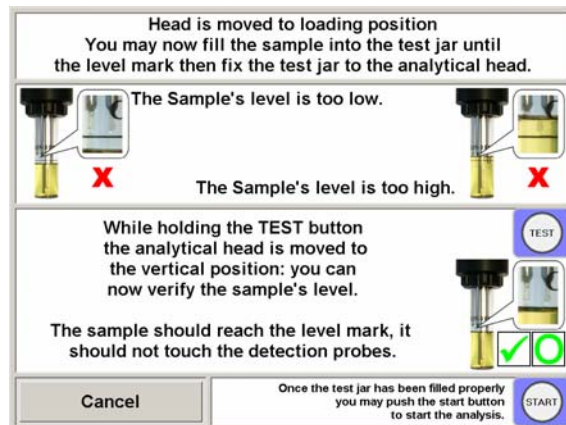

Figure 11: Start Analysis Panel
- Once the analysis has been setup as described in previous section, press the **Start Analysis** button, the panel shown in Figure 11 will pop up and the head will be moved to the loading position; the user can now easily remove the test jar, fill it as required then refix the test jar in its position.
- As described in Figure 11, **press and hold** the **TEST** button; while the **TEST** button is pressed, the head is moved to the vertical position to verify the sample's level: it should not touch the twins detection probes, by releasing the **TEST** button the head will return to the loading position: you may now correct the sample's level then again press and hold the test button and repeat the procedure as needed to obtain the proper sample's level.